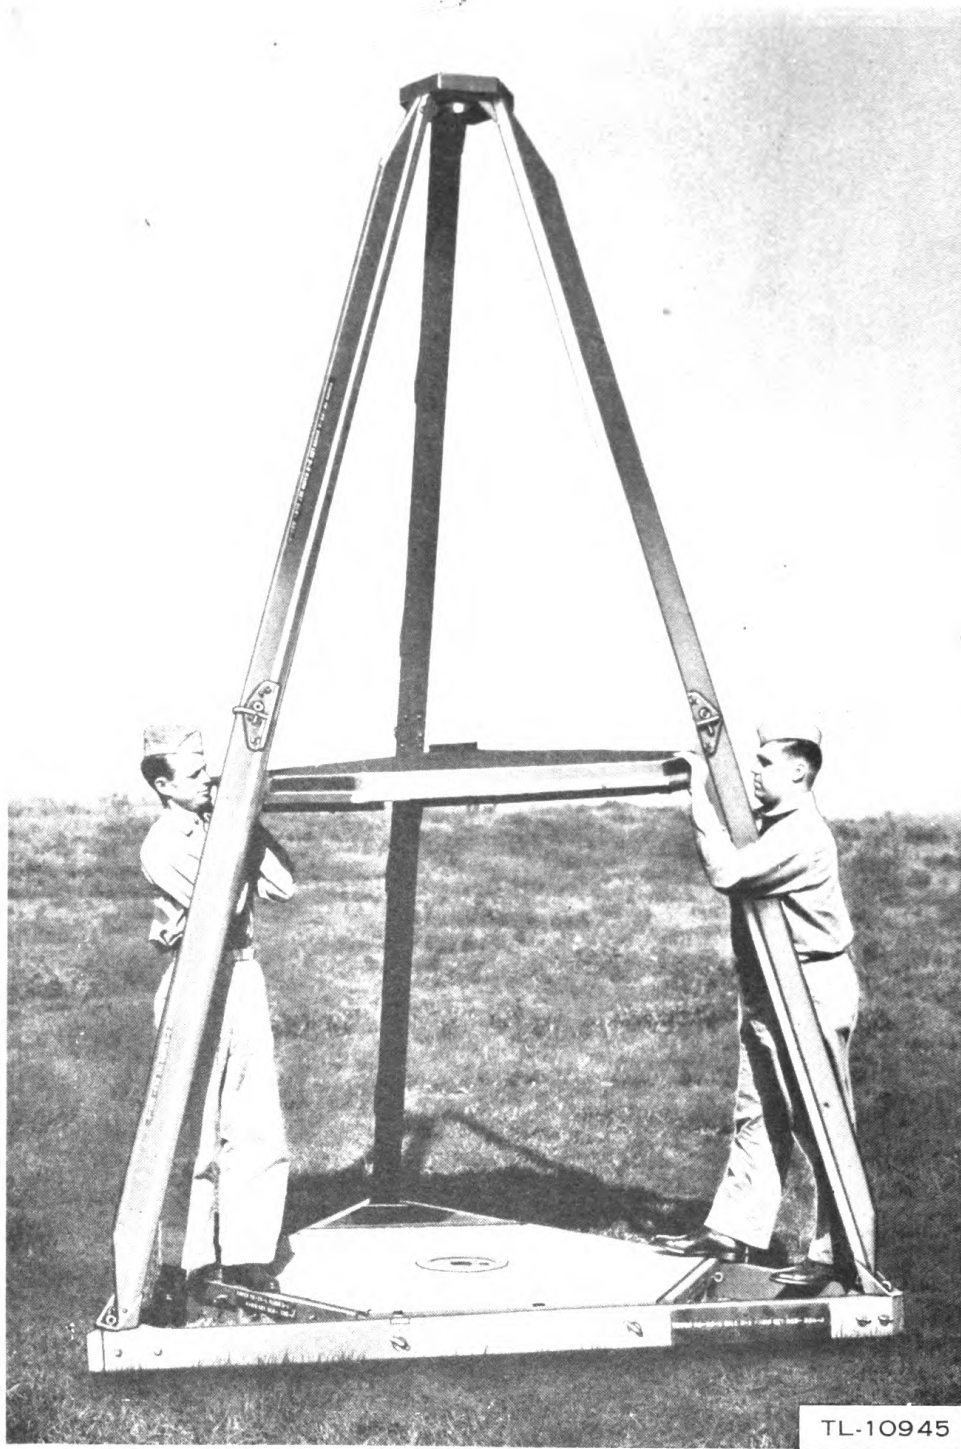
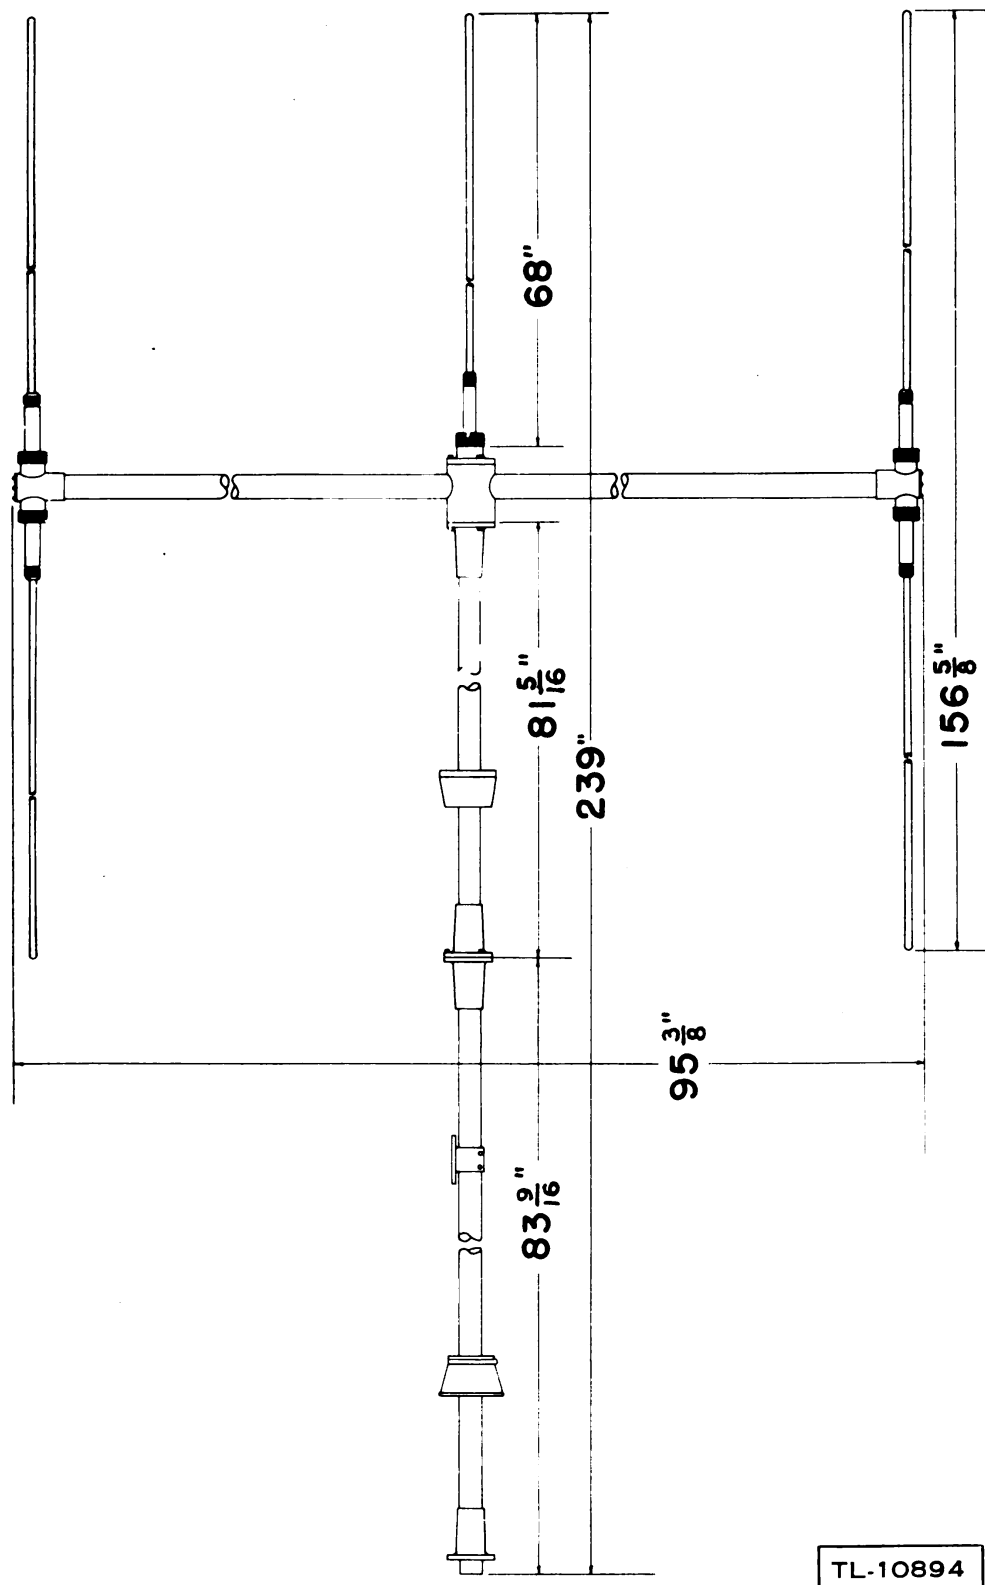

Figure 13. Assembly of roof to tower.
Figure 14. Antenna AN-105-A, outline dimensions.
(7) Raise the tower to its normal upright position. Remove the roof (6-1) from Chest CH-136-A and stand it right side up on the floor inside the tower. Make sure that the two holes in each of the three sides of the roof are in line with the tower legs. Lift the roof upward until two of the sides are over the resting blocks (fig. 13). The roof should now be levelled so that the remaining side snaps in position over the resting block. Line up the holes in the sides of the roof with the corresponding holes in the tower and fasten with 3-inch eyebolts. Do not tighten.
(8) Return the tower to the horizontal position. Tighten the three eyebolts at the apex block. Rest the apex block on Box BX-47-A. Apply a coat of waterproof grease around the inside of the tapered hole in the apex block. This grease permits free movement of the bearing on the antenna mast in this block.
b. Antenna AN-105-A (fig. 14). The antenna is packed in Chest CH-105-A.
stored in Chest CH-128-A. Refer to figure 14 for illustration of this assembly.